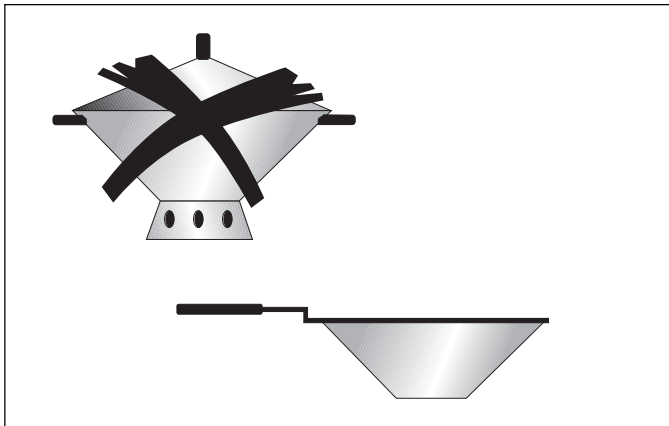

Figure 5
- Do not use a wok with a ring stand. Use flat bottom wok. (Figure 5)